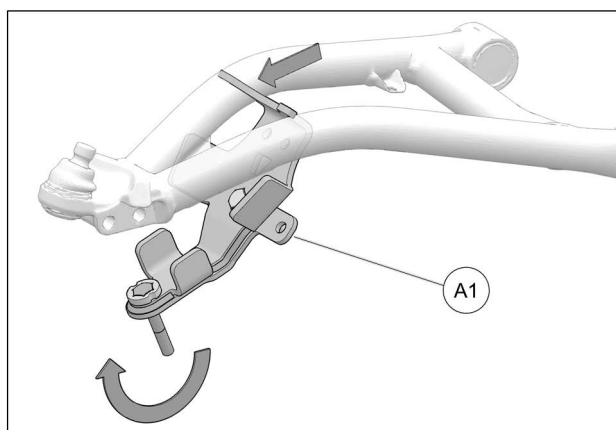

Fig. 16
7. Rotate bracket (A1) upward while sliding it forward to move it into position under suspension arm. See Fig. 16